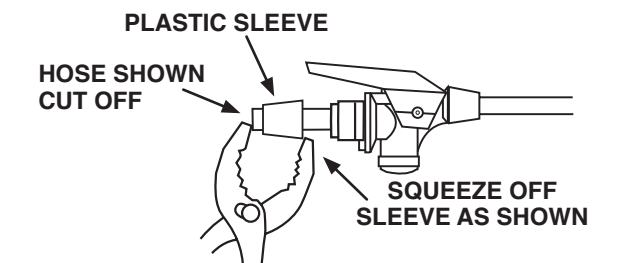

FIG. 9
- If leakage is due to cracked or damaged hose, cut off behind sleeve, remove sleeve with pliers as shown then cut remaining hose off valve head hose fitting. (FIG. 9)